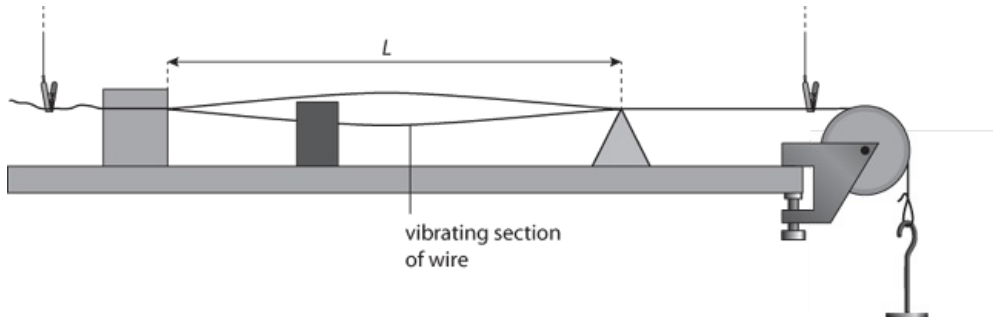

Figure 8.2: Wire over pulley vibrating.
- 8 Slowly move the prism along under the wire until the wire vibrates as shown in Figure 8.2. Adjust the prism position until the amplitude of the vibration is as large as possible.
- 9 L is the length of wire between the prism and the wooden blocks as shown in Figure 8.2. Measure L and record the value in Table 8.1.